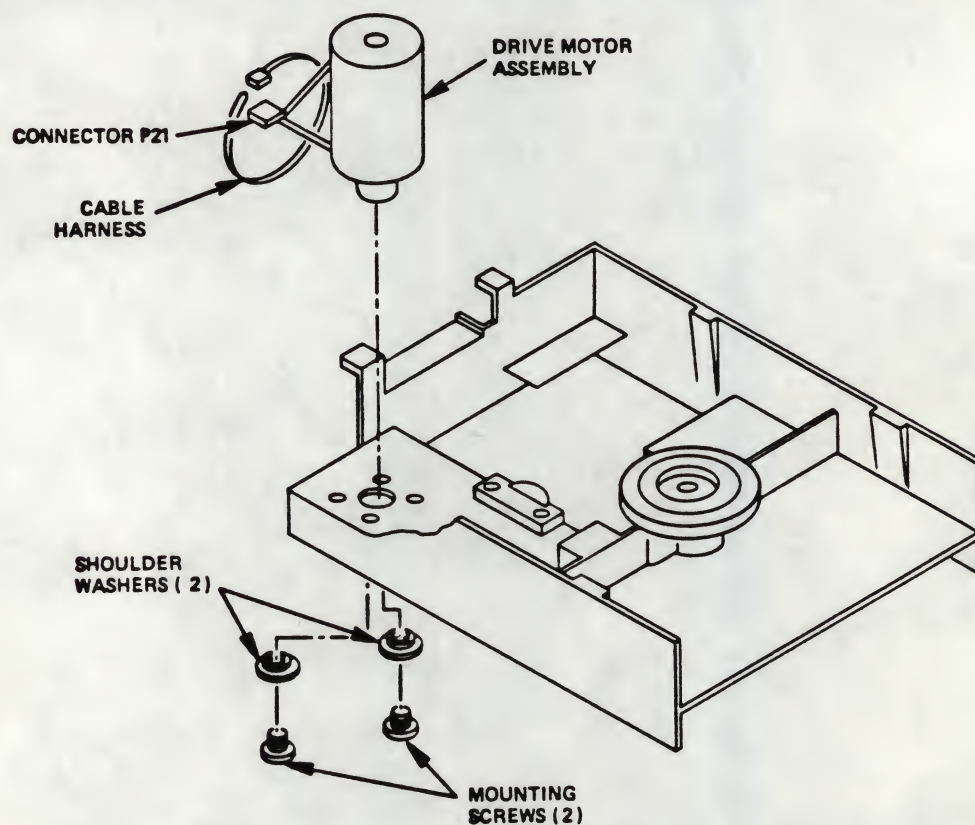

Figure 5-18
5.10.5 With a Phillips screwdriver, remove the two (2) mounting screws and the two (2) shoulder washers that attach the Drive Motor Assembly to the chassis (see Figure 5-18).
- 5.10.11 Plug Connector P21 into the Servo PCBA (see Figure 5-18).